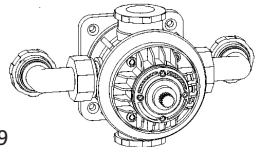

Fig.29
19. Set the shower to the full cold position by turning the coloured ring fully anti-clockwise. This operation will be made easier, if a temperature lever fixing screw is temporarily inserted by two or three turns into one of the fixing points (Fig 29).